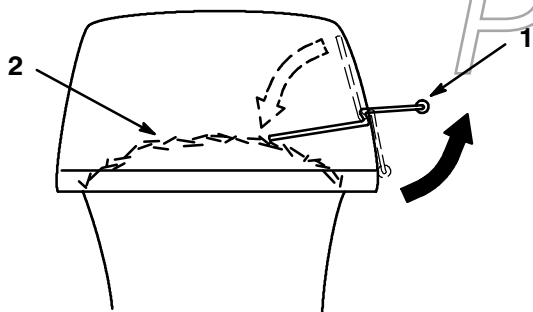

Figure 37
2. To check if both bags are full, periodically raise the full bag tester handle (Fig. 37). If you feel resistance as you raise the handle, the bags must be emptied because they are full (Fig. 37).